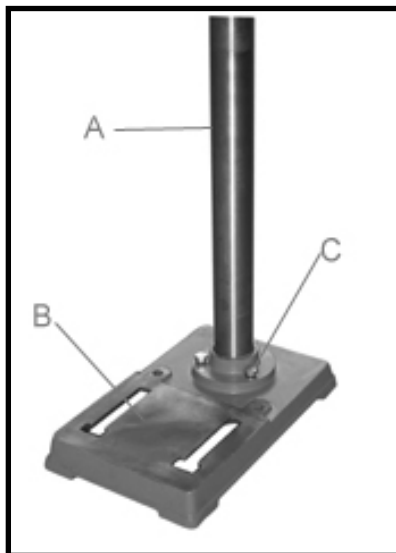

Fig. 4
1. Assemble the column (A) Fig. 4, to drill press base (B) as shown, using the three hex head cap screws (C).